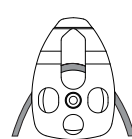

Figure 1
(1) Installing the rope according to Figure1